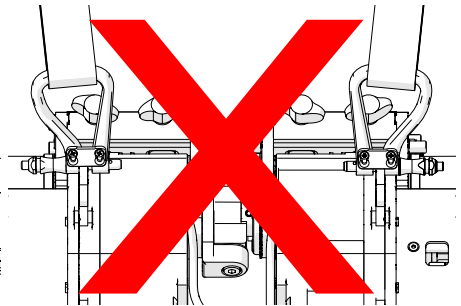

Fig. 103 - Incorrect shackle setup
**NOTE:** Ensure proper orientation of the shackles (Fig. 103).